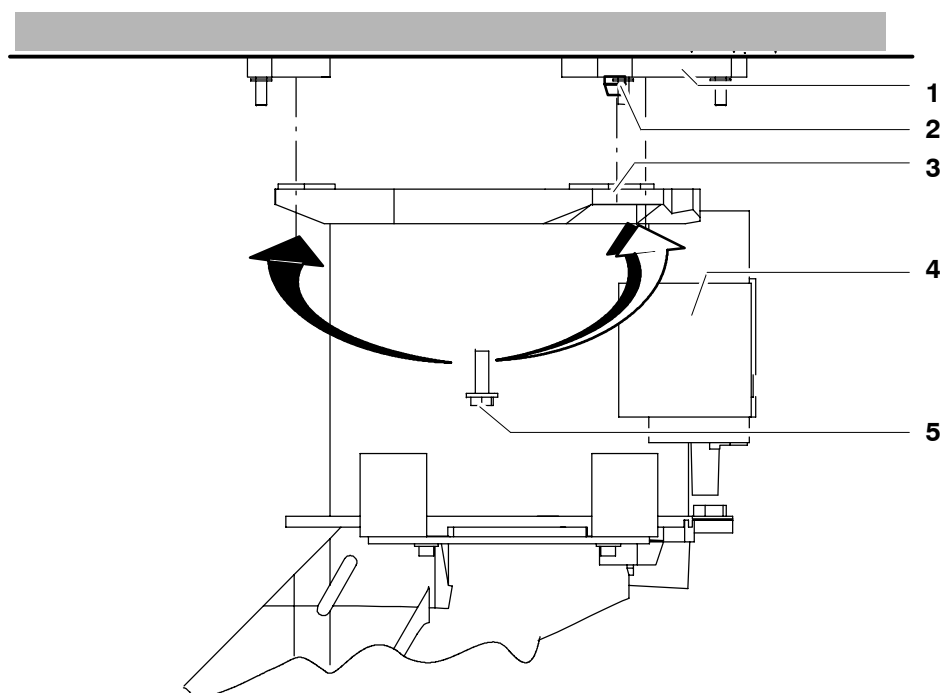

Fig. 66 Installing the manipulator on the ceiling
- (2) Raise the manipulator (Fig. 66/4) vertically with the fork lift truck and place it onto the ceiling structure (1).